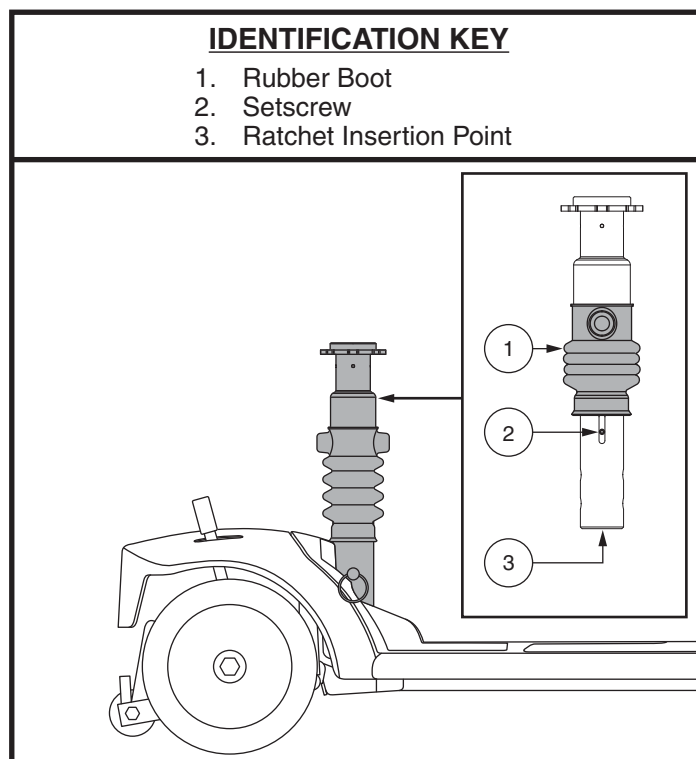

Figure 26. Seat Suspension Adjustment
The seat post acts as a shock absorber and can be adjusted for different degrees of ride comfort. Use the setscrews that are visible through the adjustment window on the side of the post as a guide when making adjustments. Slide the rubber boot towards the top of the post to expose the setscrews. **See figure 26.**
3. Insert a 13 mm socket with an extension into the bottom of the post. **See figure 26.**